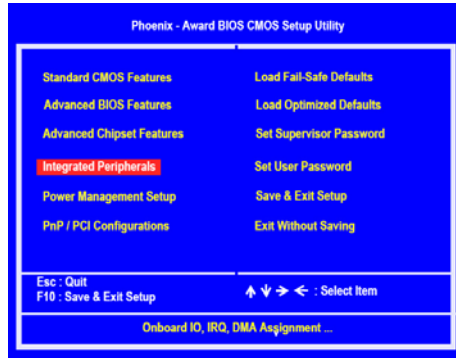

Figure 2.5 BIOS CMOS Setup Utility Main Screen
- 2 Use the arrow keys to select Integrated Peripherals (see Figure 2.5), then press Enter.